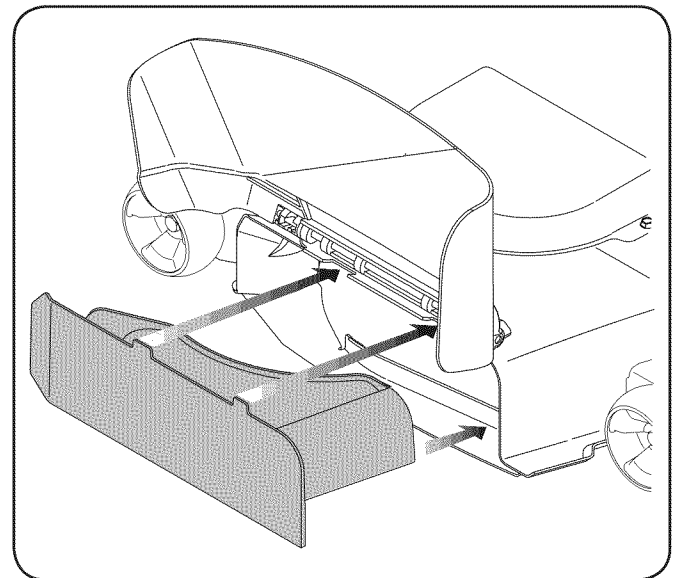

Figure 5-4
3. Insert the mulch plug, aligning the top edge of the plug with the deck as shown in Fig. 5-4. Make sure the notches on the plug are in the slots on the deck opening.
4. Lightly tap on the plug with your hand to assure that the notches fit snugly under the chute tabs. See Fig. 5-4.